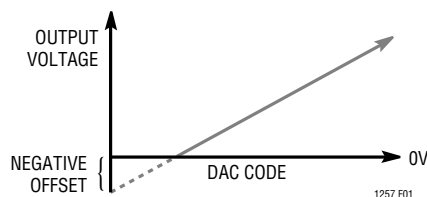

Figure 1. Effect of Negative Offset
**Offset Error:** The theoretical voltage at the output when the DAC is loaded with all zeros. The output amplifier can have a true negative offset, but because the part is operated from a single supply, the output cannot go below ground. If the offset is negative, the output will remain near 0V resulting in the transfer curve shown in Figure 1.